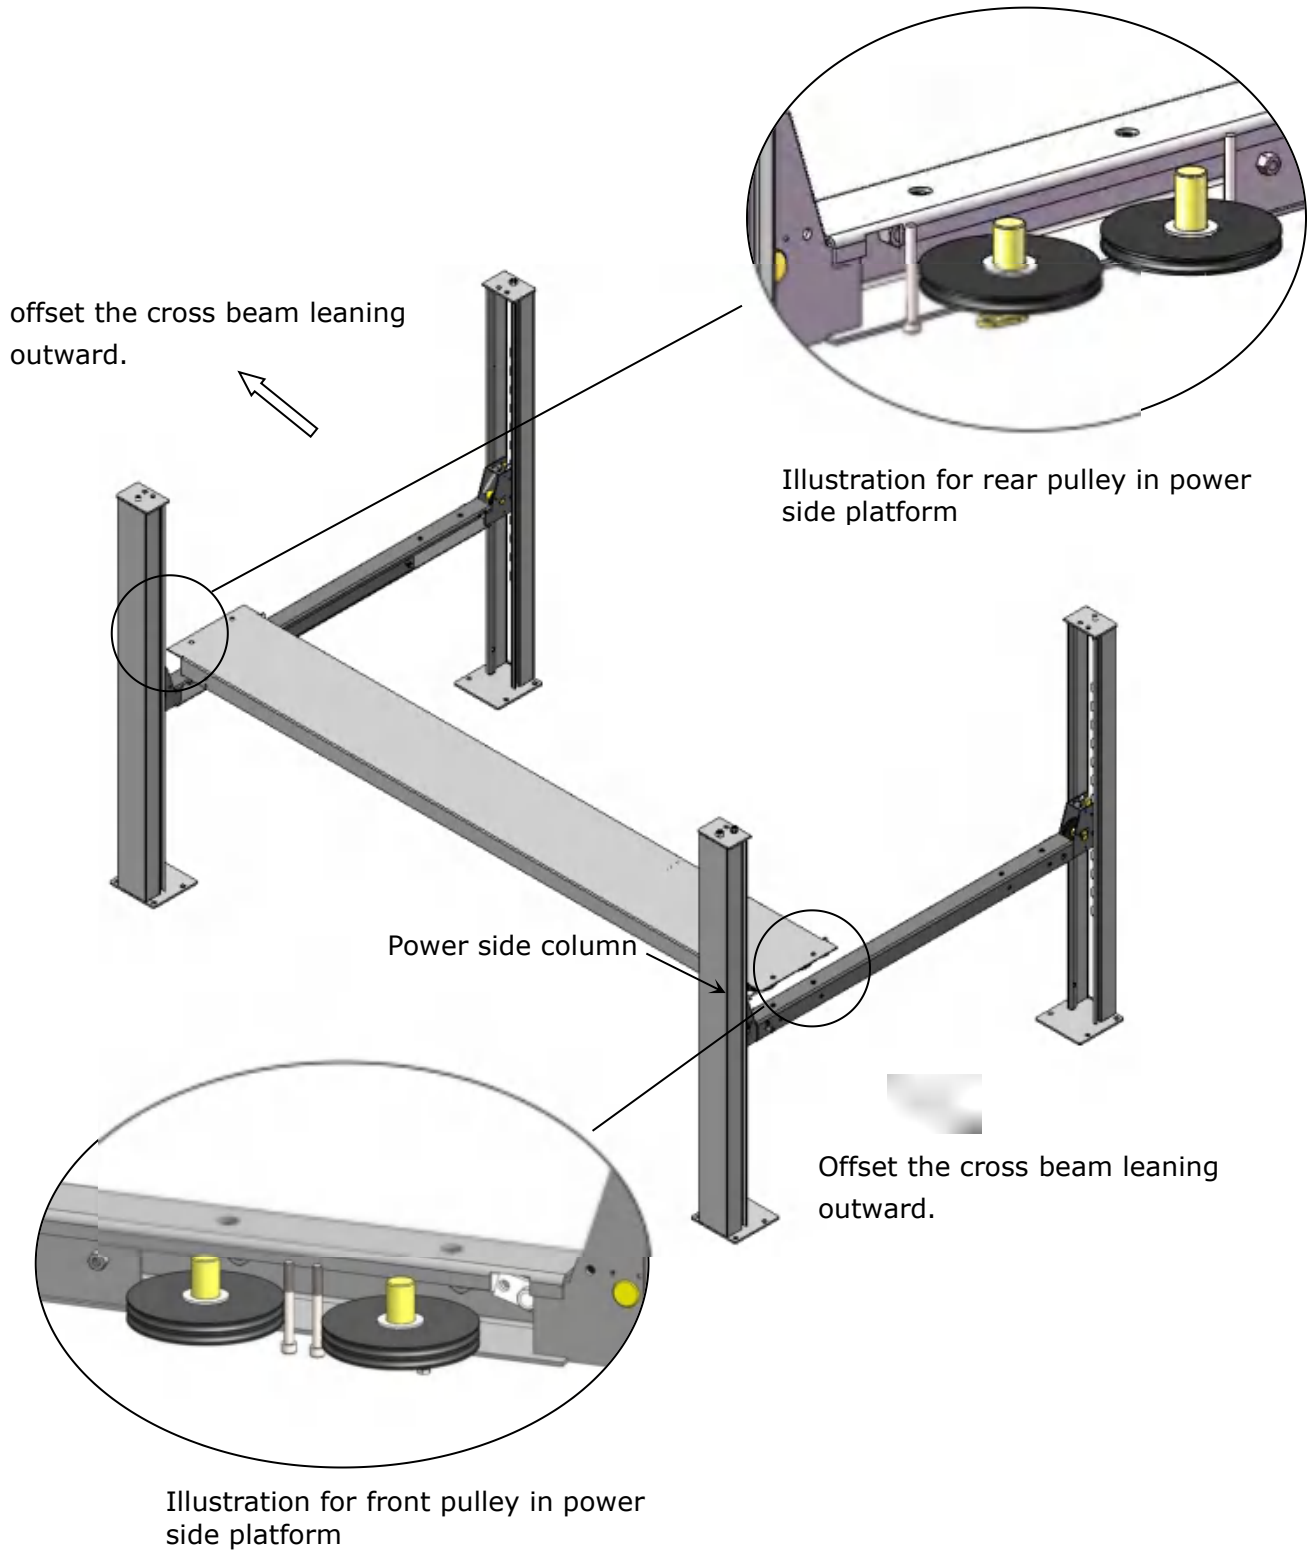

Fig. 20
1. Install the power side platform on the cross beams by a forklift or manually, offset the cross beams leaning outward until the pulleys of both platforms can enter into the cross beam windows (**See Fig.20**), align holes on the power side platform and cross beam, then screw up the bolts.